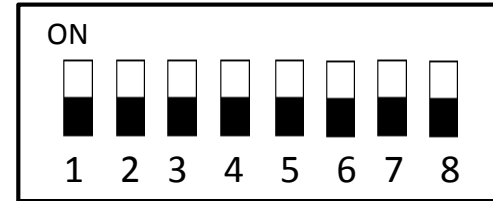

Fig1.
1. Set DipSw as Fig1.(All off)